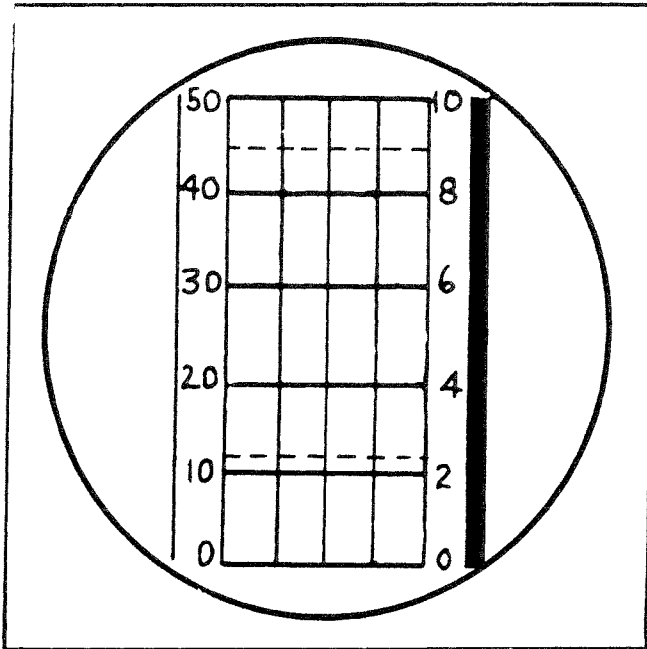

Figure 2-10. Indicator BC-929-A—Trace Adjusted for Power Output Check
(2) Disconnect the video cable from the "VIDEO" receptacle on the indicator unit and lay this cable aside.
(3) Connect the short cable attached to Test Indicator BC-936-A to the "VIDEO" receptacle on the indicator.
(4) Using Test Cord CD-800, connect the transmitter-output receptacle "TRANS. ANT." to the receptacle marked "TRANS. IN" on the test indicator.
(5) Place the "ON-OFF" switch on the control box in the "ON" position, the "ON-OFF" switch on the indicator in the "ON" position and after two minutes place the "TRANS.-KEY" switch in the "TRANS." position. With the test-indicator "POWER-PULSE" switch in the "POWER" position, a single, vertical trace line should appear on the indicator screen.
(6) With the "HOR. CENT." control, shift the vertical trace to the right-hand vertical line on the indicator screen, as in figure 2-10.